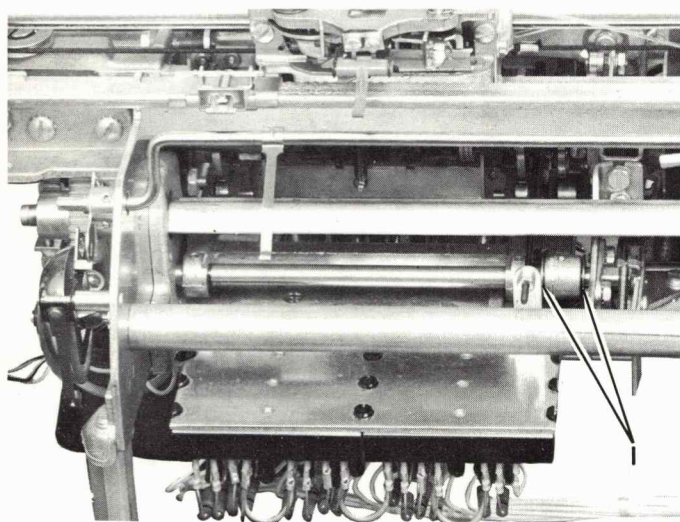

FIGURE 33. Selector Bail Removal
4. Remove all the C-clips from the positive bail shaft (#1, Figure 33).